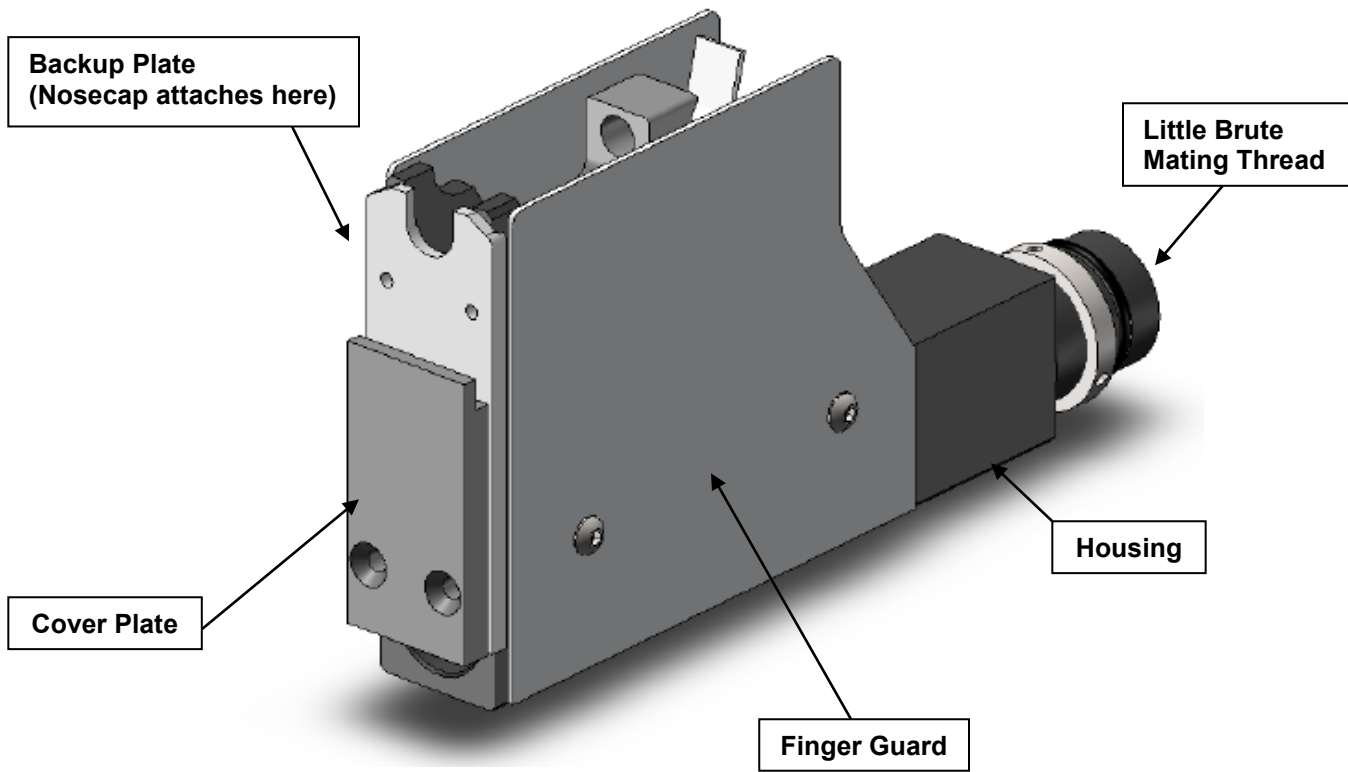

Figure 1-1
1. *Little Brute Offset Adapter with Finger Guard* (shown in Figure 1-1): These are available by adding “-G” to the end of the LBOA-xx model number. **These units provide safety improvements that comply with the European Council’s Machinery Directive 2006/42/EC.**